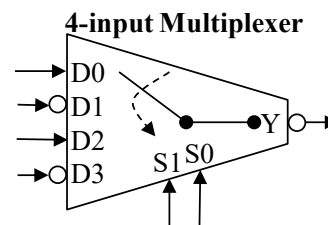

Figure 1: 4-input MUX.
The **multiplexer (MUX)** is a device that acts as a multi-position switch. See Figure 1. A number of DATA inputs are applied to this device (D0-D3) and one of the inputs is switched to the output (Y) of the device. A binary number applied to the SELECT (S1 & S0) lines controls which input is passed to the output. For example, when S1=S0=0, D0 is “logically” connected to the output Y. When S1=0 & S0=1, D1 “logically” connected to Y and so forth for D2 & D3 to connect to Y. Notice that some of the inputs are